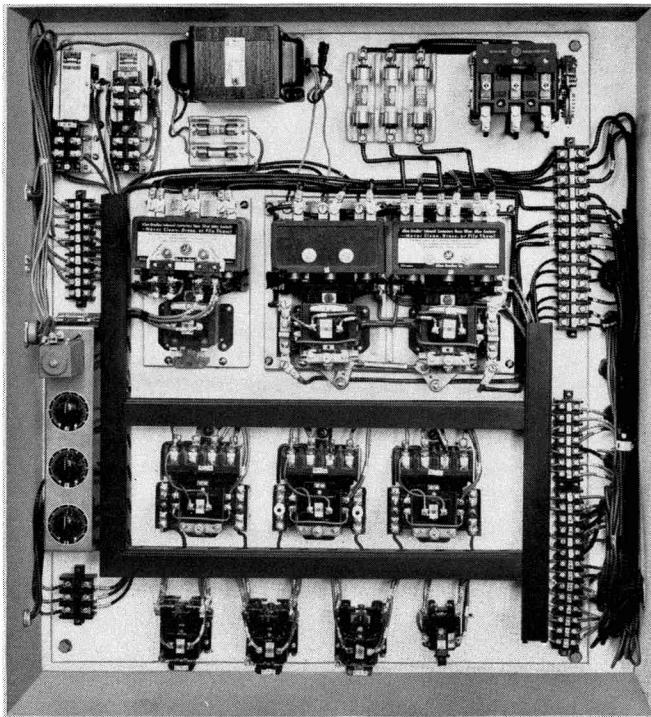

FIG. 5
2. Inside the electrical control cabinet (Figure 5) there are three adjustable rheostats. These control from top to bottom, "FORWARD and REVERSE", "JOG", and "BRAKE". Quicker engagement of the clutches and brake results from clockwise rotation of the rheostats. "FORWARD and REVERSE", and "BRAKE" should be set so that no grabbing or jerking results. The "JOG" adjustment should be set lower on the dial than the "FORWARD and REVERSE" adjustment. The rheostats are carefully adjusted at the factory and should not require attention for some time. When adjustment is required move the rheostats only one or two small graduations at a time.
4. The actual gear shifting time, not counting the deceleration to shifting speed or the acceleration to the new speed, is controlled by the time delay relay, TDR-1 in the electric control cabinet. (Figure 5) There is an adjustment screw for varying the time. Turning the adjustment screw counterclockwise, increases the shifting time. Ample time must be allowed for complete engagement of the gears. Changing from speed number nine to speed number eight requires shifting the maximum number of gears. The shifting time should be regulated at that speed change. It should be remembered that the brake is not used during the shifting cycle. Deceleration is accomplished by plugging the motor. The deceleration time is not adjustable.
Overload relay is open.	Reset MS-1 in the electric control cabinet. (Figure 5)